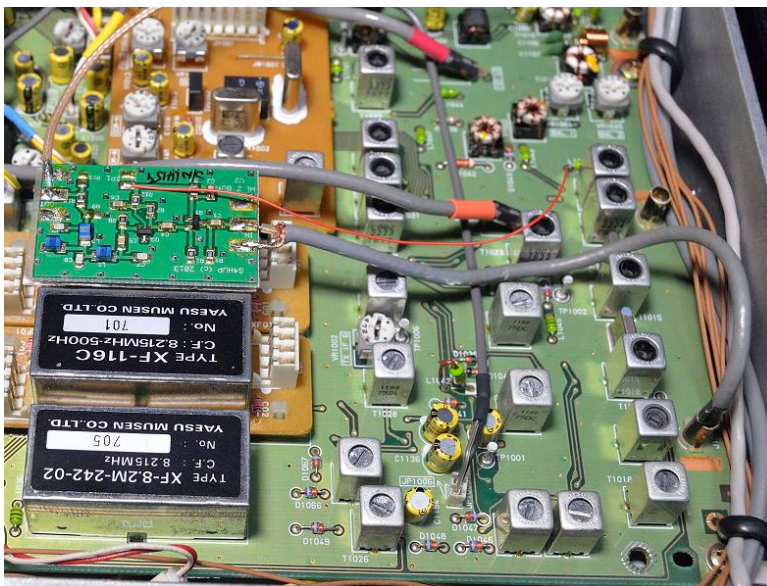

Fig 1 – View of PAT inside FT920, showing it mounted on one of the crystal filters and the connection routing.
5. The PAT board mounts conveniently on top of one of the crystal filters on the 920 Main Unit - see Fig 1. From this position, both the input and the +Vcc connections are just short runs.